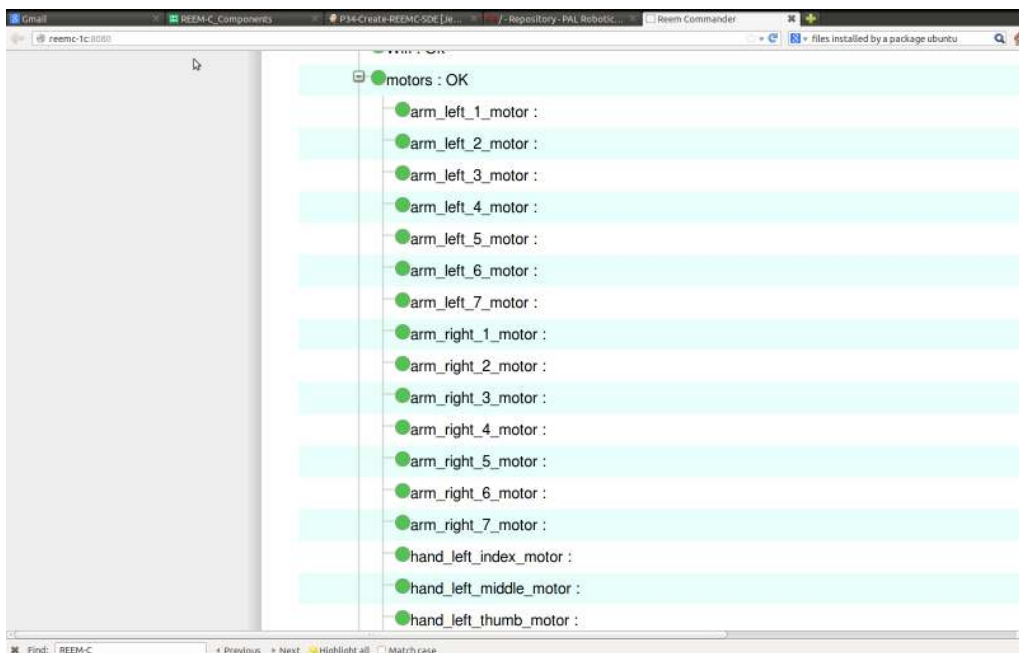

Figure 43: WebCommander motors status
4. Verify that the motors and sensors are running using the WebCommander. The figure 43 shows the motors status. If there is a problem in any of the motors, repeat the process rebooting the robot. If the problem persists contact PAL Robotics. Be aware that WebCommander can not be displayed with the Firefox web browser. So use Chrome or Chromium web browser.